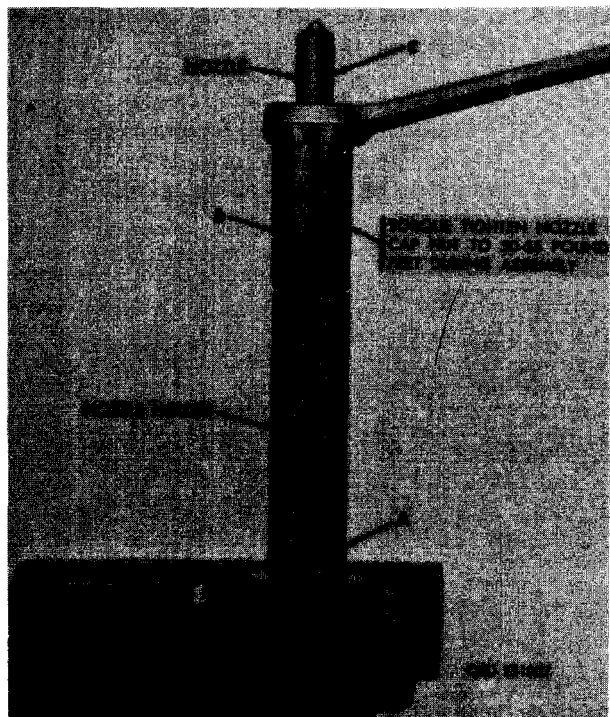

FIGURE 154. REMOVING OR INSTALLING NOZZLE CAP NUT AND NOZZLE ASSEMBLY.
- (3) Figure 154. (A) Position nozzle holder in vise as shown. (B) Remove nozzle cap nut. (C) Remove nozzle body and valve as an assembly.